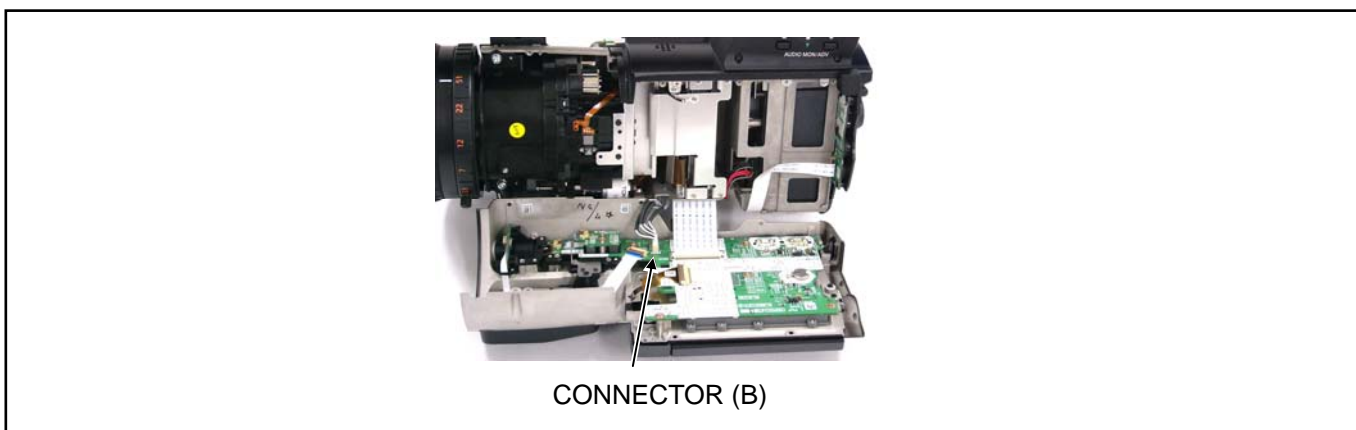

Figure 9-3
4. Open the Side Case R S as shown in figure 9-3.
5. Disconnect a connector (B) and remove the Side Case R S Ass'y as shown in figure 9-3.